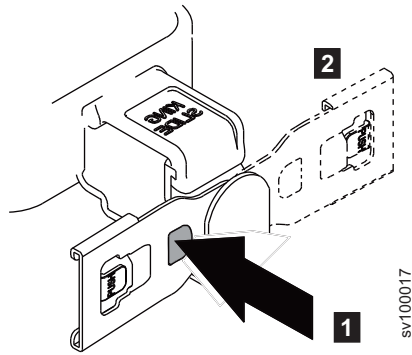

Figure 24. Reversing the orientation of the assembly
- a. Press the button marked "PUSH" in Figure 24 on page 24.